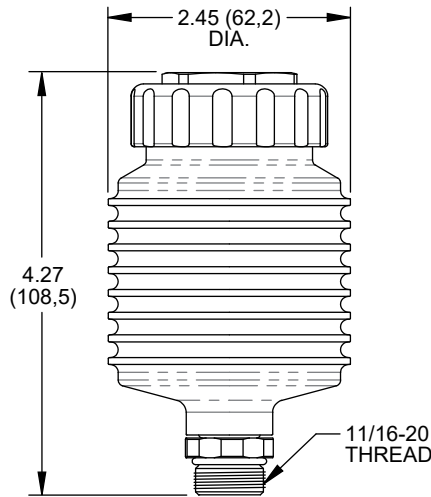

Figure 1.
- For mounting dimensions of reservoirs and brackets, see Figures 1 thru 5.